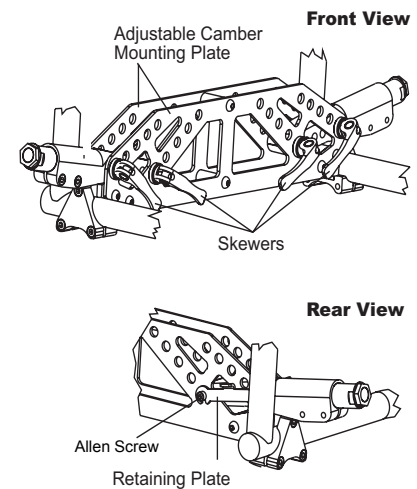

Figure 81
2. Unlock all four skewers. See Figure 81.